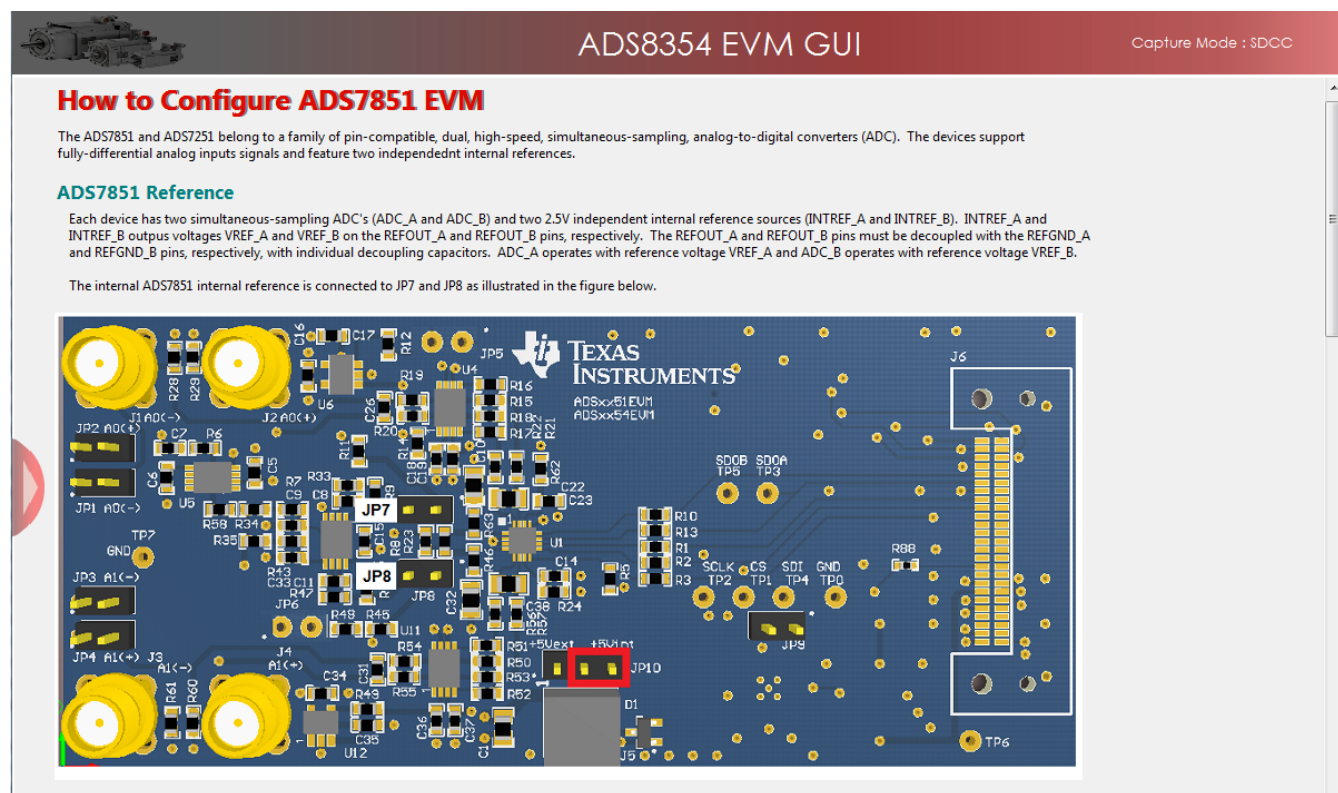

Figure 16. ADS7851EVM Settings Page
2. The ADS7851 device incorporates two internal individual 2.5-V reference sources. The reference sources generate voltages V_{ref_A} and V_{ref_B} on terminals REFOUT_A and REFOUT_B, respectively. The reference output voltages V_{ref_A} and V_{ref_B} are available on jumpers JP7 and JP8. Figure 16 shows the *ADS7851EVM Settings* page of the GUI.